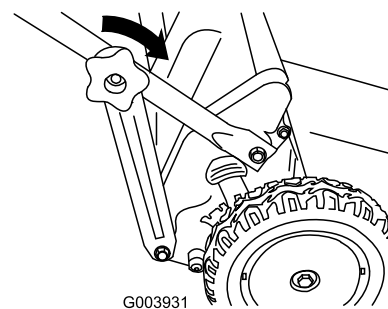

Figure 16
3. Install the lower handle knobs and tighten the knobs as tight as you can by hand (Figure 16).